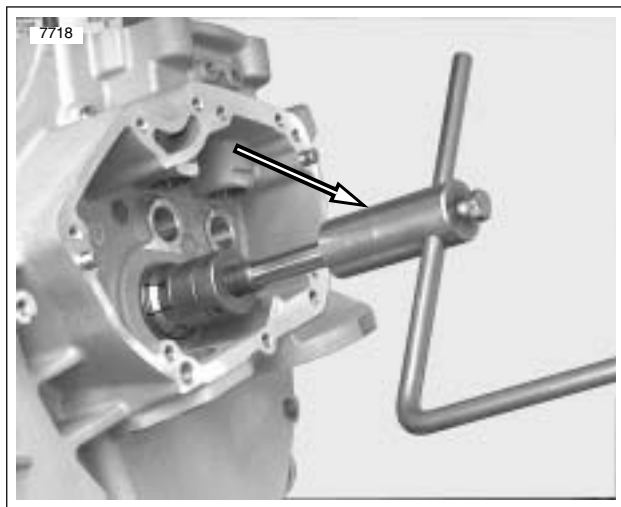

Figure 3-121. Lapping Pinion Shaft Main Bearing Using Crankcase Main Bearing Lapping Tool (Part No. HD-96710-40B)
2. See Figure 3-121. Obtain CRANKCASE MAIN BEARING LAPPING TOOL (Part No. HD-96710-40B). Assemble CRANKCASE MAIN BEARING LAP (Part No. HD-96718-87) to lapping handle. Assemble guide sleeve to sprocket shaft bearing bushing. Sleeves, for use with tapered bearing, are assembled to case with bearings and small spacer collar. Finger-tighten the sleeve parts.